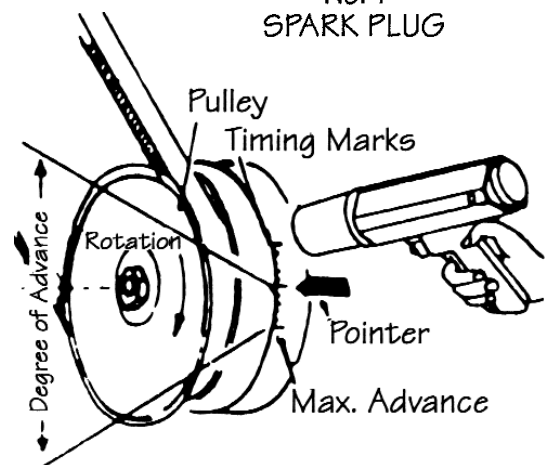

Figure 3
- 4.1.7 Start the engine and operate at normal idle speed. Aim the timing light at the timing mark as shown in figure 3.
- 4.4.3 Direct the timing light flash at timing marks and slowly rotate distributor right and left until the marks are aligned with the pointer (see figure 3)
With the timing light still connected and with the vacuum line disconnected, speed the engine up slowly and watch the timing mark. It should remain stationary until the engine reaches the manufacturer's specified speed. The timing should then move steadily and without jerking (see figure 3). If the mark does not move, or moves erratically, the centrifugal (automatic) advance should be serviced as necessary. To check the maximum advance, it is necessary to mark the harmonic balancer with the maximum degree per manufacturer's specifications and follow manufacturer's procedures.